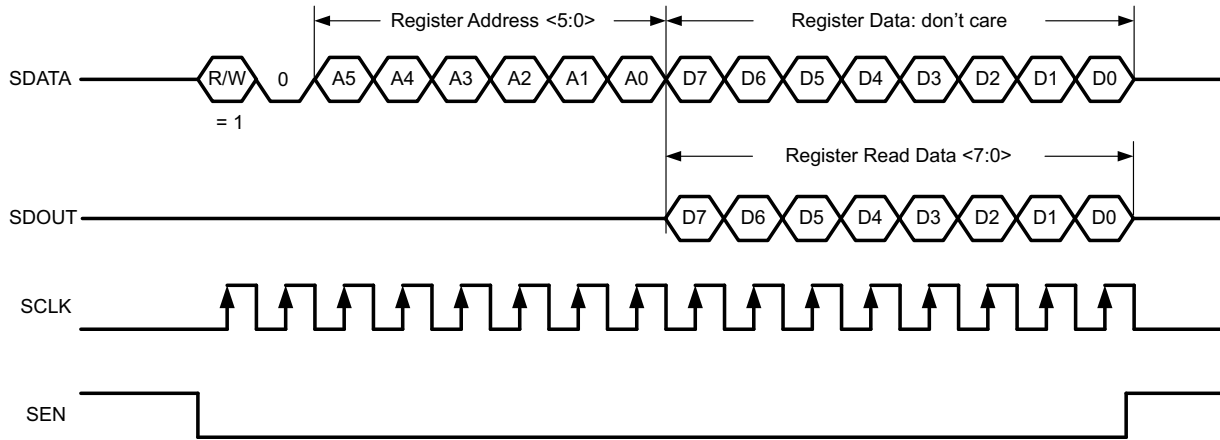
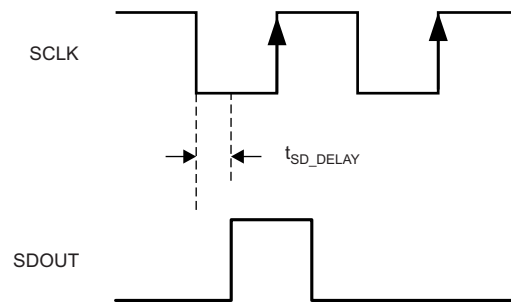

Figure 80. Serial Register Readout Timing Diagram
Figure 81. SDOUT Timing Diagram
2. Write the address of register on bits A5 through A0 whose contents must be read. See Figure 80
When serial registers are enabled for writing (bit A7 of 8-bit address bus is 0), the SDOUT pin is in a high-impedance mode. If serial readout is not used, the SDOUT pin must float. Figure 80 shows a timing diagram of this readout mode. SDOUT comes out at the SCLK falling edge with an approximate delay ( $t_{SD\_DELAY}$ ) of 20 ns, as shown in Figure 81.